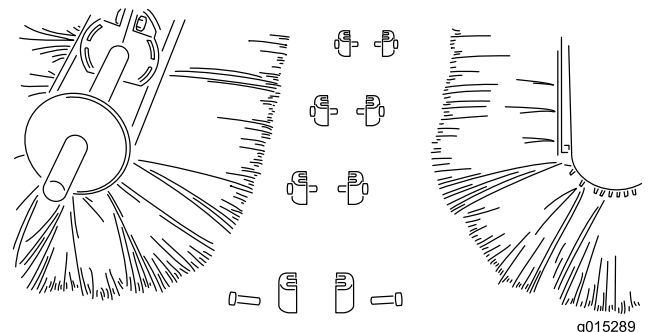

Figure 34
3. Separate the brush halves and discard the damaged section(s) (Figure 34).